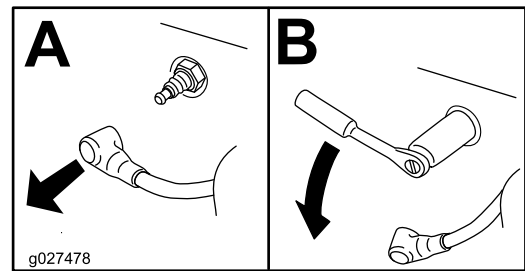

Figure 42
4. Remove the spark plug (Figure 42).